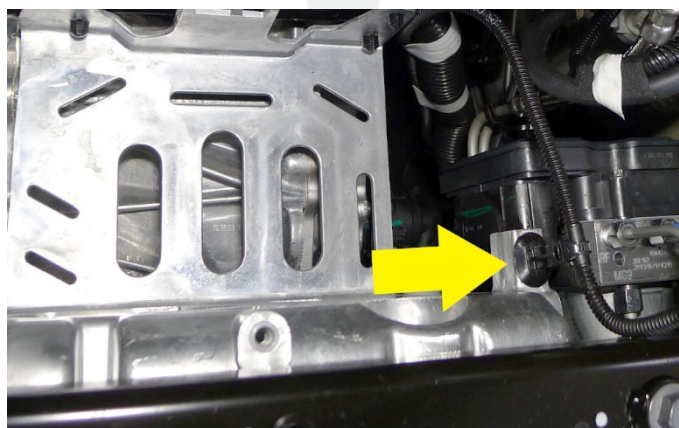

Figure 3
5. Release the clip that attaches the battery vent tube to the battery bracket and set the vent tube aside (Figure 3).